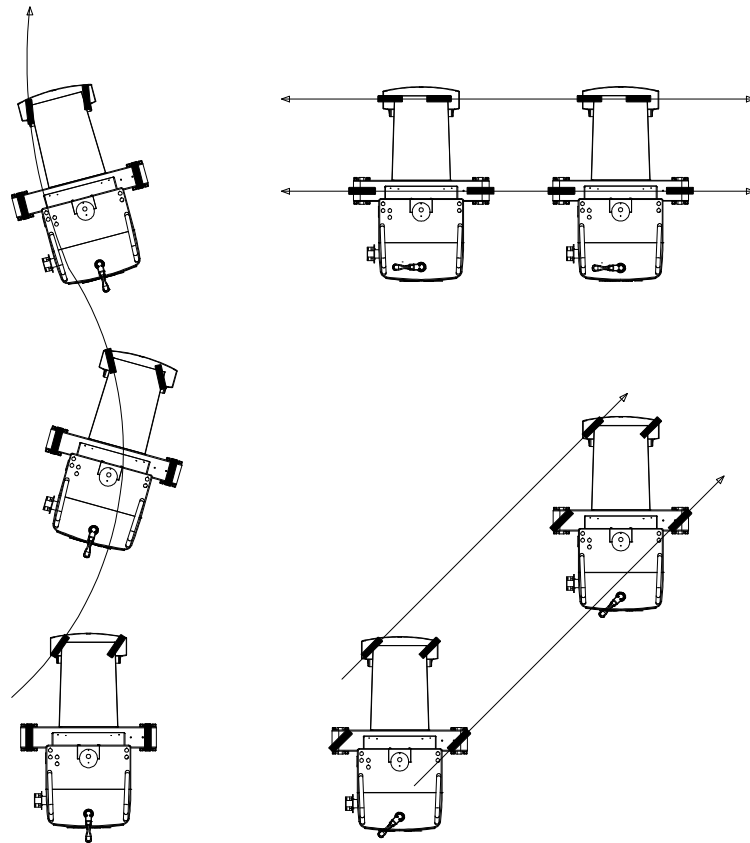

Fig. 32: Mobile stand steering (schematic representation)
- To maneuver the mobile stand freely, ensure that the steering & braking lever has engaged in its initial position, pointing directly backward from the unit (Fig. 32, left).
- To move the mobile stand in an exactly-defined direction, rotate the steering & braking lever until it points toward the desired direction (Fig. 32, right).